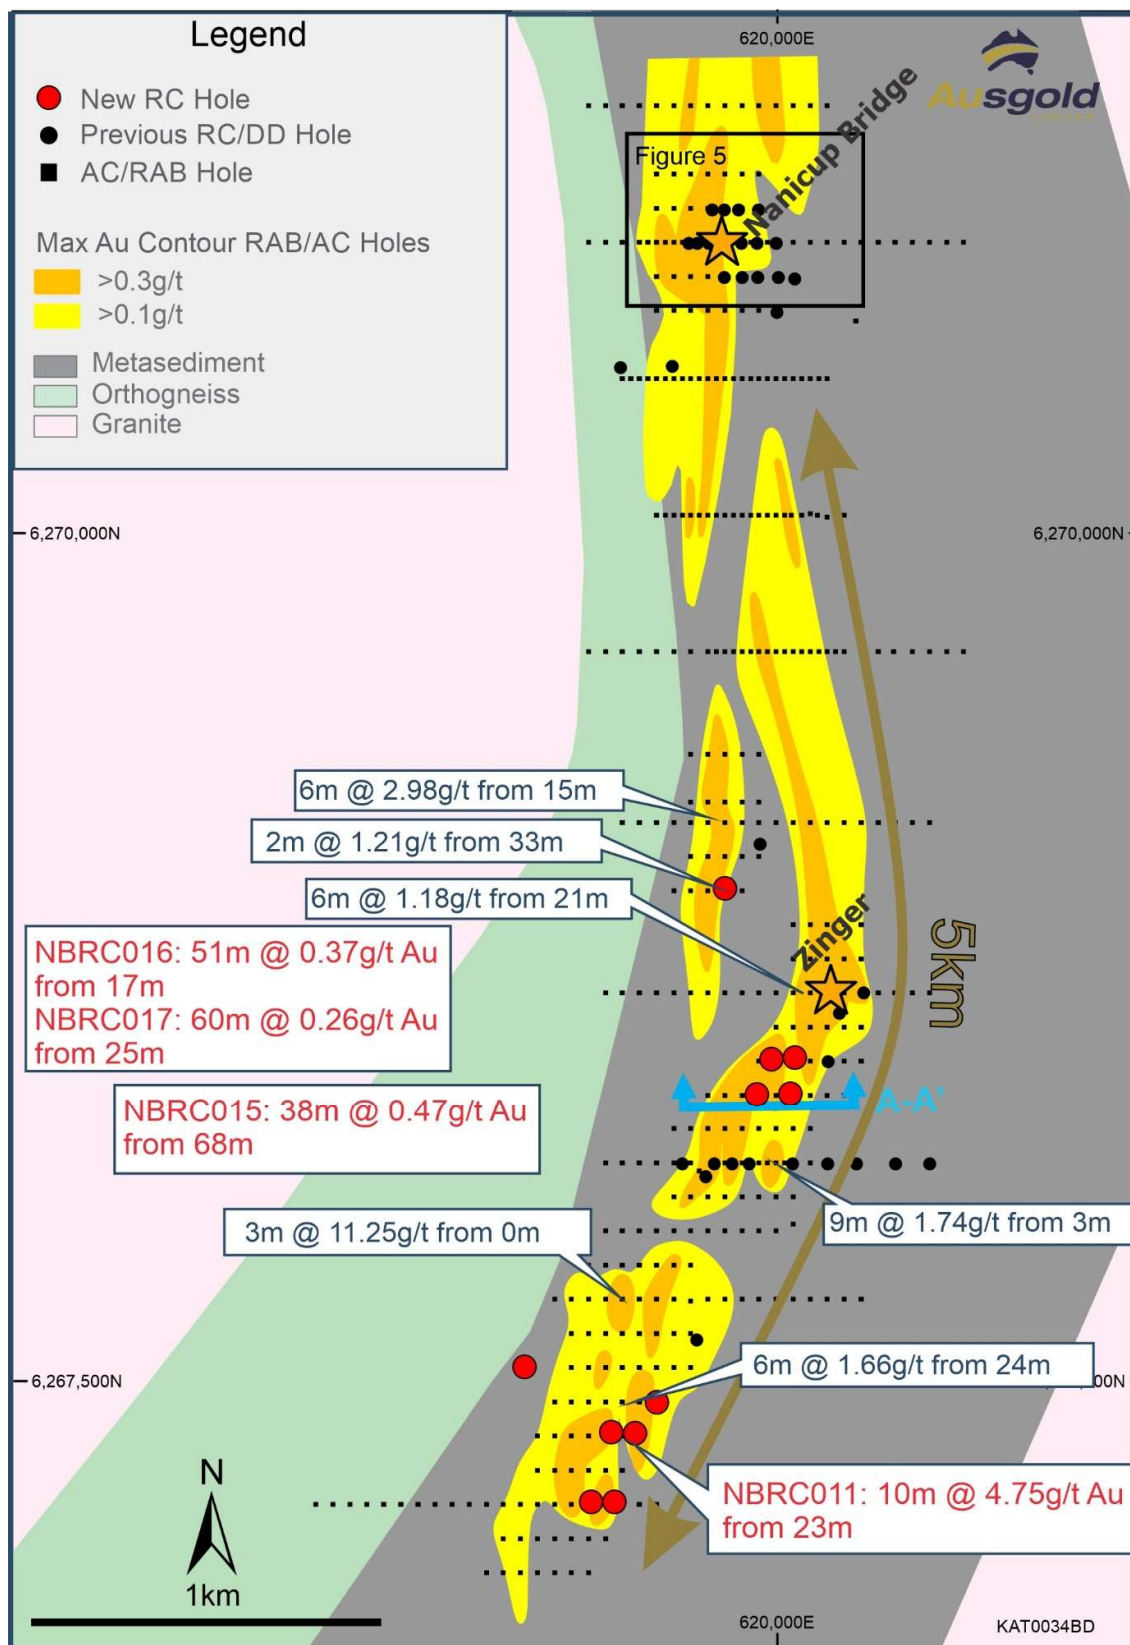

Figure 2 – Geology and mineralisation map of the Nanicip Bridge and Zinger Prospects, highlighting new drilling and results
The Zinger prospect, located 40km southeast of the Katanning Gold Project (KGP), hosts a broad zone of near-surface supergene gold mineralisation. Historical aircore (AC) and Rotary Air Blast (RAB) drilling has defined mineralisation over a 5km strike length (Figure 2), with standout intercepts including⁴ (Figure 2):
Ausgold has recently completed 11 RC holes (NBRC008–018) for 1,218m (Figure 2), targeting the down-dip extent of the supergene mineralisation. The primary objective was to intersect hypogene (fresh rock) gold and assess continuity over significant strike lengths – which is critical for demonstrating scalability. This marks the first program to systematically test below the base of oxidation.